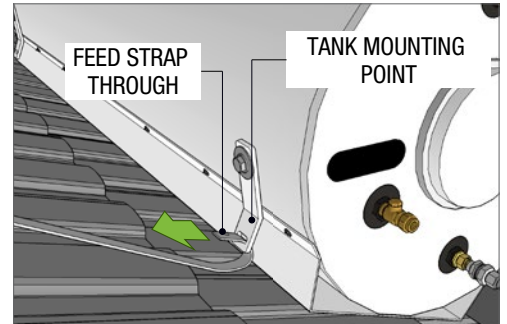

Fig 10
4. Fold the stainless steel straps (supplied) in half and feed them through the eyelets on the steel tank fixing lugs (Fig 10)